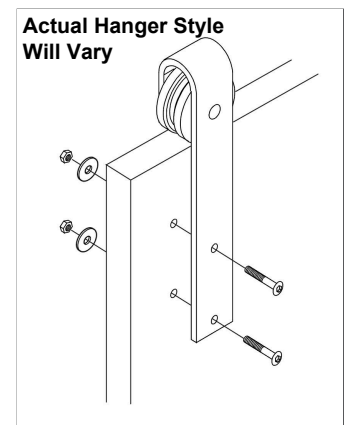

Figure 6
9. Install the hangers to the front of the door using the button head bolts, washers and nuts provided (Figure 6).
11. Slip the Adjustable Door Stop over the track and tighten (Figure 6).